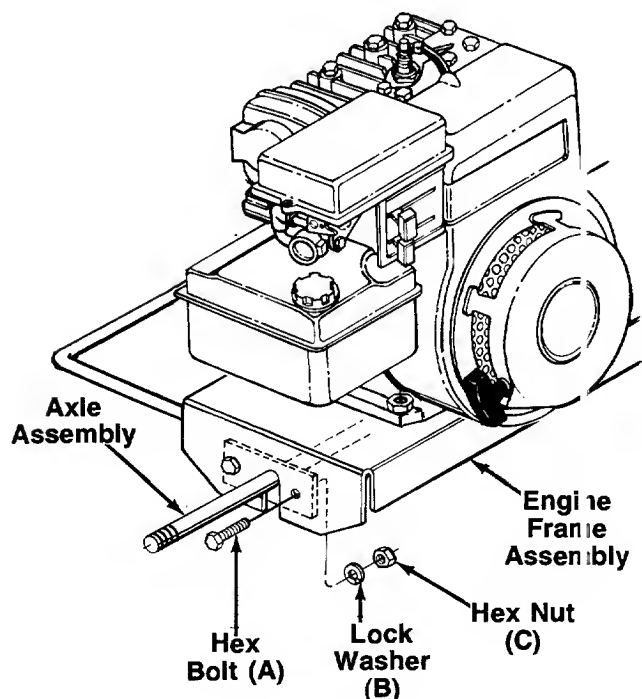

FIGURE 2.
- ← 2. Place the axle assembly in position inside the engine frame assembly as shown in figure 2.
3. Secure with 1" long fine thread hex bolts (A), four lock washers (B) and fine thread hex nuts (C), using two 9/16" wrenches. Tighten securely.